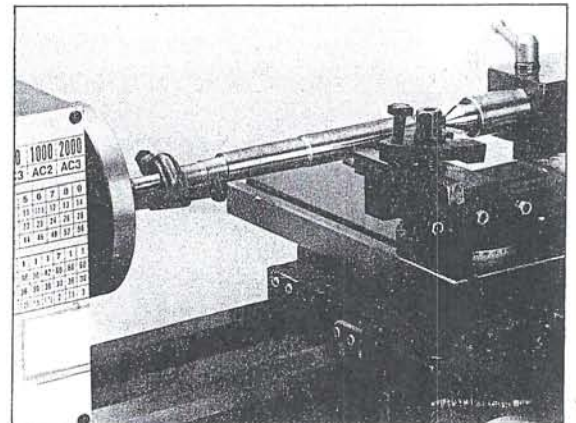

Fig. 3
For turning between centers it is necessary to remove for the chuck from the spindle. It is held by three hex-headed nuts M8, (Fig. 3)
1. Loosen the screw 1. (Fig.3)
2. Loosen bolt (2), remove washers (3) and bushing (6).
3. Loosen nuts (7) to the set position.
4. Loosen nut (5) remove washer (4) and gear (8).